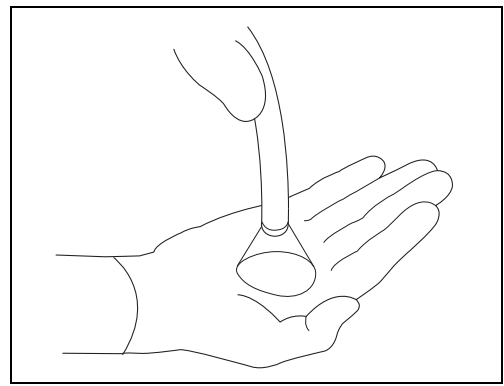

Figure 3.21
- 3 Confirm that light is output from the endoscope's distal end. (See Figure 3.21)